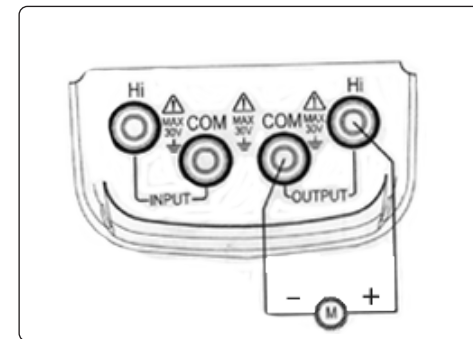

Figure 5-1
1. Insert the testing probe into the jack of the meter's output terminal (OUTPUT), and connect the other end with input terminal of the Users' meter. see Figure 5-1:
1. Insert the testing probe into the jack of the meter's output terminal (OUTPUT) and connect the other end with input terminal of the Users' meter, see Figure 5-1;
3. Press (FUN) key , select thermocouple(TC) function, and display 'GC' unit and 'R' graduation no ;